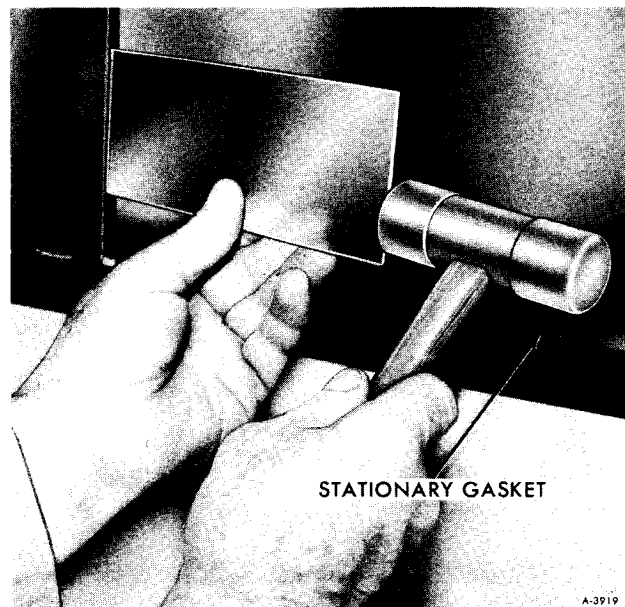

FIGURE 7
2. Dislodge the mullion (center bar) with the block and hammer, Figure 7. Pull the mullion to the side and lift it out of the window frame.